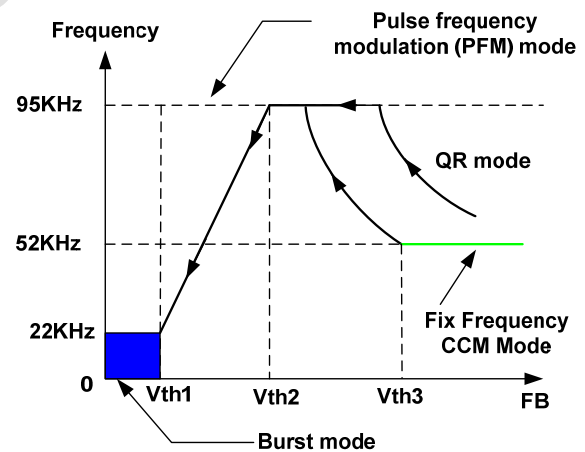

Figure 1
- At full load conditions ($FB > V_{th3}$, Figure 1), there are two situations: firstly, if the system input is in low line input range, the IC operates in fixed frequency CCM mode. Thus, small size transformer can be used with high power conversion efficiency. Secondly, if the system input is in high line input range, the IC operates in QR mode. In this way, high power conversion efficiency can be achieved in the universal input range when system is at full loading conditions.
- At normal operating conditions ($V_{th2} < V_{FB} < V_{th3}$, Figure 1), the system operates in QR mode. The frequency varies depending on the line voltage and the load conditions. Therefore, the system may actually work in DCM when 95KHz frequency clamping is reached.
- At light load conditions ($V_{th1} < V_{FB} < V_{th2}$, Figure 1), the system operates in PFM (pulse frequency modulation) mode for high power conversion